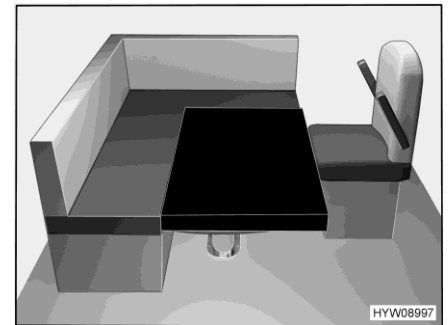

Fig. 80 After conversion
- Insert the additional cushion onto the table as shown in Fig. 80. The rounded corner faces to the front right.